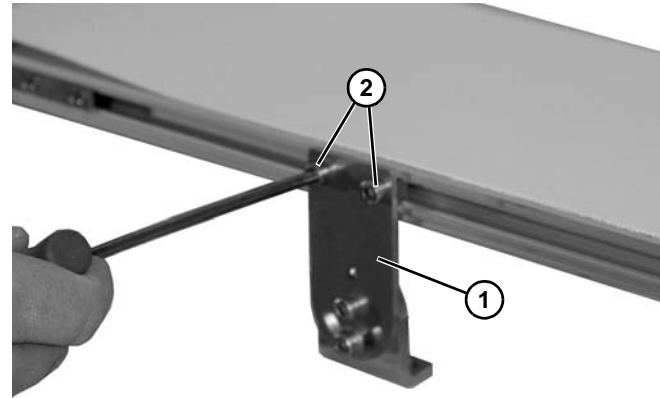

Figure 8
2. Fasten brackets (Figure 8, item 1) to support stand with mounting screws (Figure 8, item 2).
3. Tighten screws (Figure 8, item 2) to 60 in-lb (7 Nm).